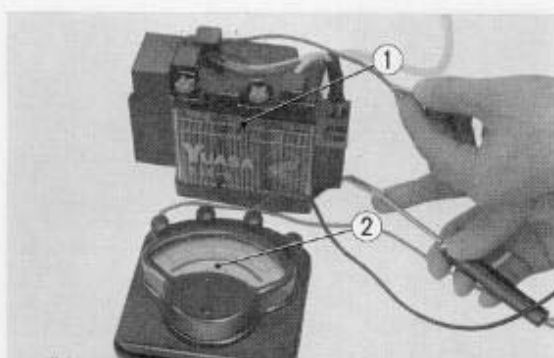

Fig. 5.36 Measuring voltage of battery
- Voltage of each batteries are as follows. (Fig. 5.36)